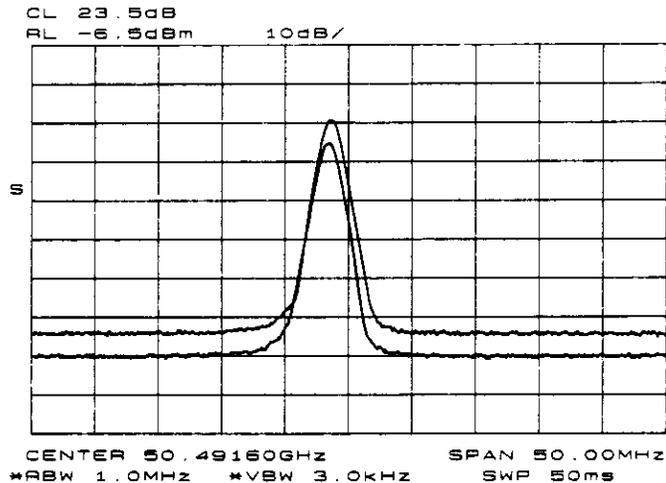

**Figure 3-34. Signal responses produced by a 50 GHz signal in U band.**
- The IF output of a harmonic mixer contains many mixer products (frequencies of  $LO \pm \text{source}$ ,  $2LO \pm \text{source}$ ,  $3LO \pm \text{source}$  ...  $nLO \pm \text{source}$ ). As a result, within a single harmonic band, a single input signal can produce many responses, only one of which is valid. These responses come in pairs, where the members of the valid pair are spaced 621.4 MHz apart (see Figure 3-34) and the right-most member for the pair is the correct response (for this analyzer, the left member of a pair is not valid).